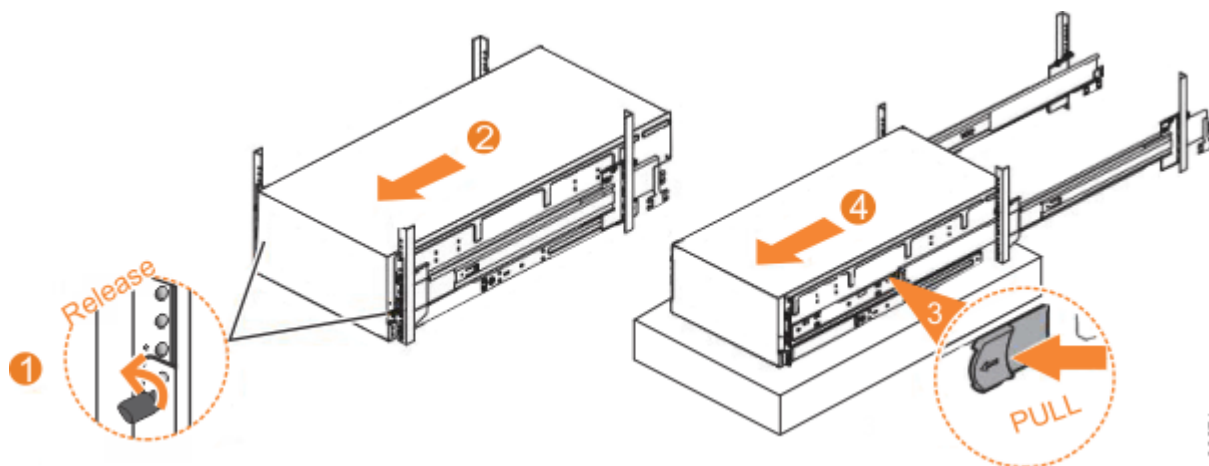

Figure 114. Removing the 5U expansion enclosure from the rack
1. Loosen the locking thumb screws (1) on the front of the enclosure, as shown in Figure 114 on page 170.
2. Carefully slide the enclosure forward out of the rack (2), as shown in Figure 114 on page 170.
3. Locate the left and right blue release tabs near the front of the enclosure. Pull both release tabs forward to unlock the drawer mechanism (3) in Figure 114 on page 170).
4. Slide the enclosure and inner rail member out of the rack (4) in Figure 114 on page 170).